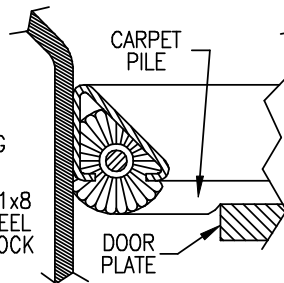
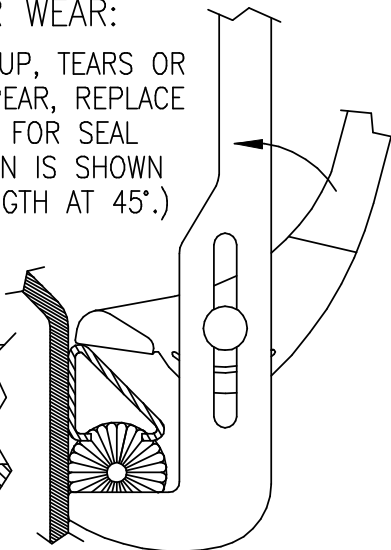

FIGURE 2.9.3
FIGURE 2.9.4
TO INSPECT AutoLOK™ II SEALS: (SEE PAGE 9, FIGURE 2.9.3)
4. IF THE SEAL WILL NOT EASILY INSERT, SQUEEZE SEAL INTO TUBING WITH A PIPE WRENCH PLIERS (90° CHANNEL LOCK WRENCH) BEFORE TAPPING INTO FINAL SEATED POSITION. SEE FIGURE 2.9.4. DO NOT ALLOW WRENCH TO ENTER TUBING SLOT. SEE FIGURE 2.9.3 FOR FINAL CARPET POSITION.
6. INSPECT INSTALLED SEALS. SEE FIGURE 2.9.3. RUN HAND ALONG BOTTOM OF SEAL FRAME: THE CARPET SHOULD FEEL FLAT FROM 3/4" TO 1" WIDE AROUND SEAL FRAME. YOU SHOULD NOT FEEL A ROUNDED ROD BELOW THE SEAL FRAME SLOT LEVEL. DOOR CLOSING SHOULD COMPRESS CARPET.